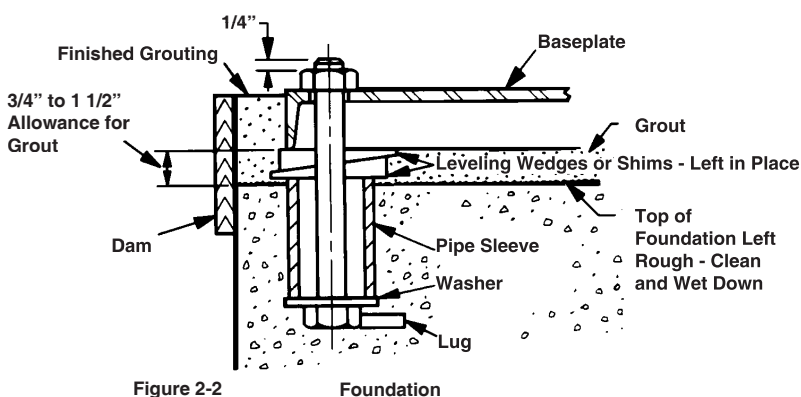

Figure 2-2
3. Support the baseplate on metal shims or wedges having a small taper. (Refer to Figure 2-2)